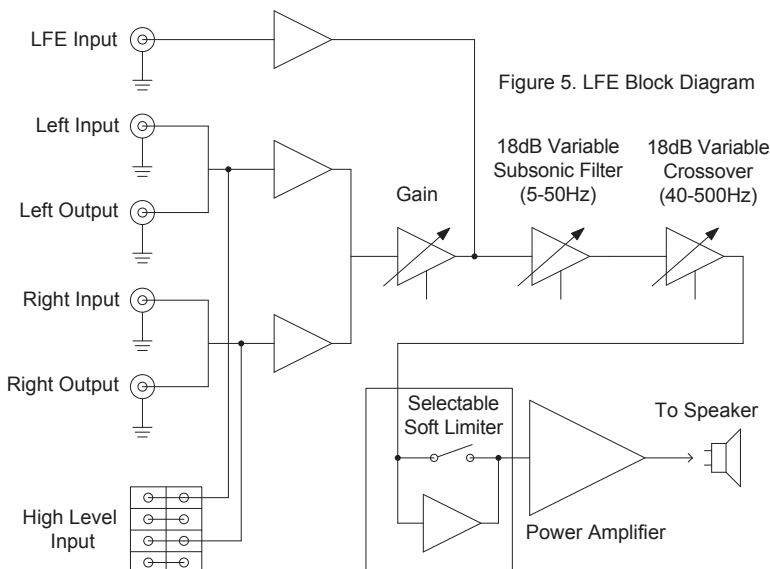

Figure 5. LFE Block Diagram
Optional connection to LFE output from your receiver. Bypasses amplifier volume control, use receiver to set levels. Also set Variable Crossover (5) to full clockwise position (500Hz) and Subsonic Filter (4) slightly lower than your woofer's F3 point, or between 9 and 12 o'clock if woofer specs unavailable. See block diagram (figure 5) on page 5.
Some home theater receivers have LFE Output. This bypasses the amplifier volume control, so use the receiver to set levels. Also set Variable Crossover **5** to full clockwise position (500Hz) and Subsonic Filter **4** slightly lower than your woofer's F3 point, or between 9 and 12 o'clock if woofer specification is unavailable. See block diagram (figure 5) on page 5.